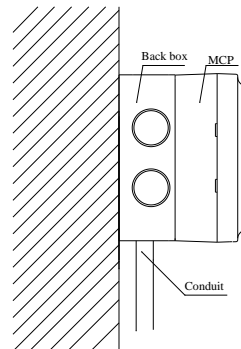
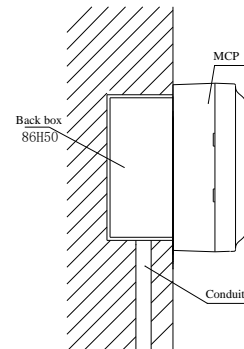
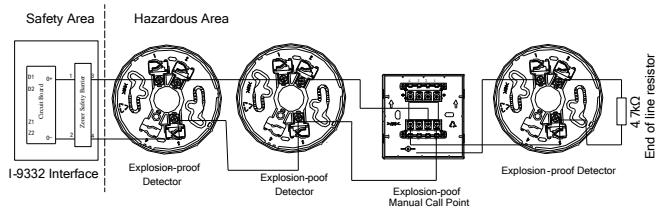

Fig. 2
Fig. 3
Fig. 4
- (1) Before installation, check if the enclosure is in good condition and labels are complete.
- (2) Remove the MCP first, thread cables through the wiring hole on the base and connect to corresponding terminals, and then put back the MCP. Mounting-hole distance is 60mm (Fig. 4). The conduit can be surface mounted or flush mounted as shown in Fig. 2 and Fig. 3.
When this MCP is connected with I-9332 Interface, explosion-proof photoelectric smoke detector, explosion-proof heat detector, a  $4.7k\Omega$  end of line resistor should be connected at the end of the loop. System connection is shown in Fig. 4.